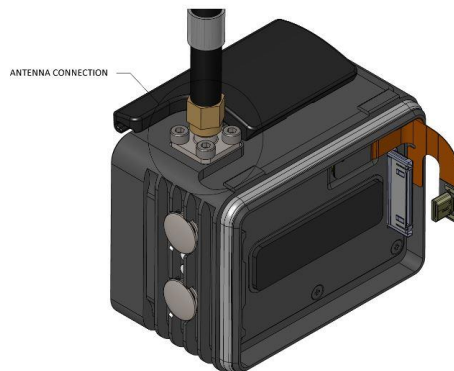

Figure 5-2 Connecting the Antenna
1. Connect the antenna. Do not over tighten. Figure 5-2 shows the antenna connector with an antenna in place.